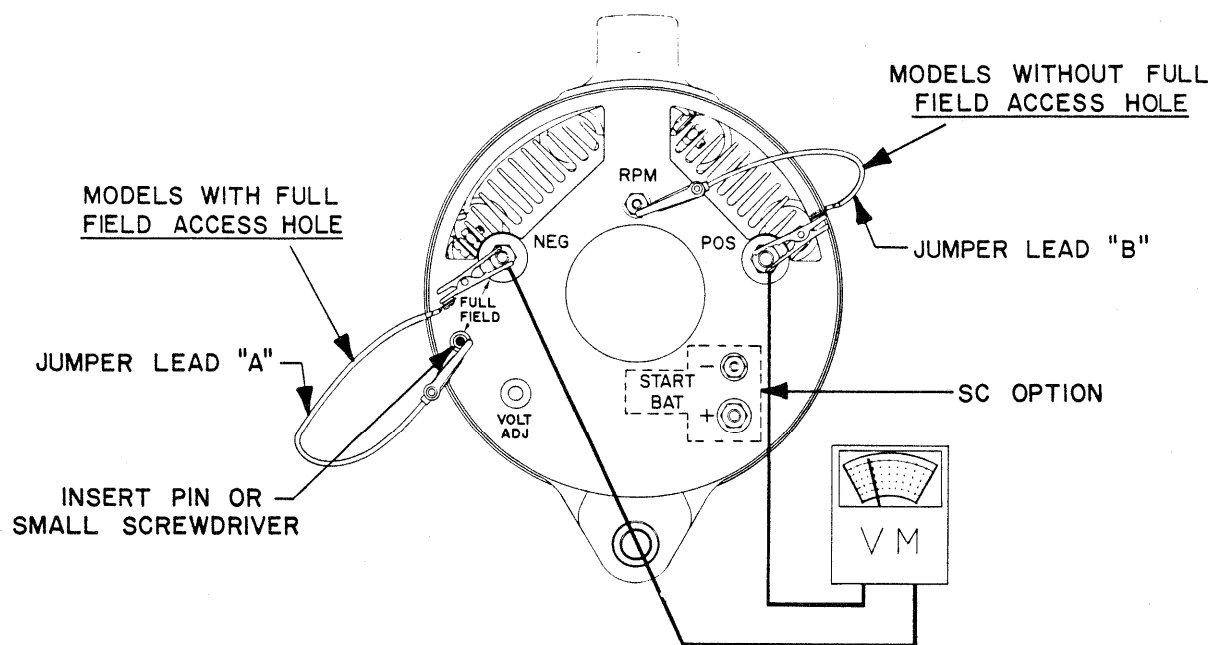
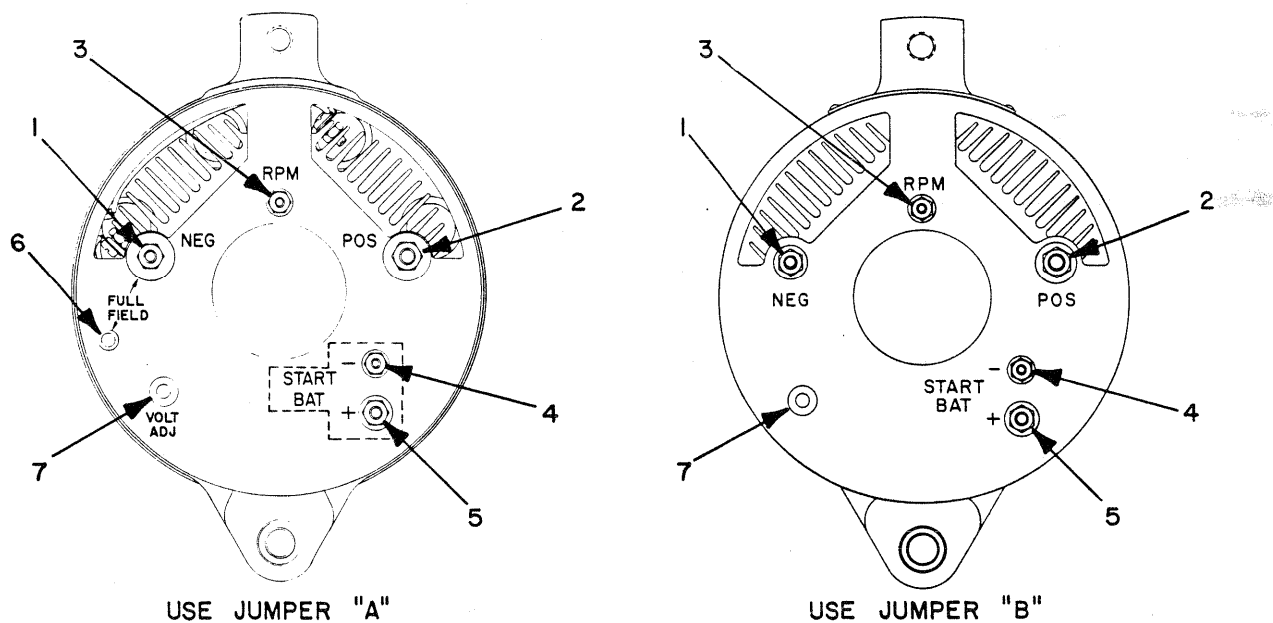

FIG. 1
FIG. 2
- a. Connect a reliable Voltmeter to alternator Pos. (+) and Neg. (-) terminals. See Fig. 1
- a. Locate Volt Adjustment access hole in rear cover. See Fig. 2
- a. Locate illustration in Fig. 2 that matches the alternator under test. Connect jumper lead (Min. #12 gauge wire recommended) as required in Fig. 1.
- d. For models with Full Field access hole (see Figs. 1 & 2), use jumper lead "A" test method. If voltage does not rise above specifications, test proves that problems are with Stator, Rectifiers or Field Coil. For models without Full Field access hole, use jumper lead "B" test method (see Figs. 1 & 2). Jumper lead "B" test method also excites regulator. If voltage does not rise above specifications, this test proves that a problem could exist in the Stator, Rectifiers or Field Coil and also in the Regulator Output Stage.